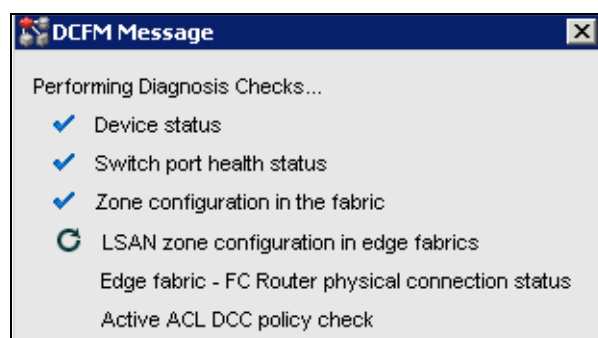

Figure 17-31 Performing Diagnosis
3. A panel displays, as shown in Figure 17-31, showing the Checks performed.